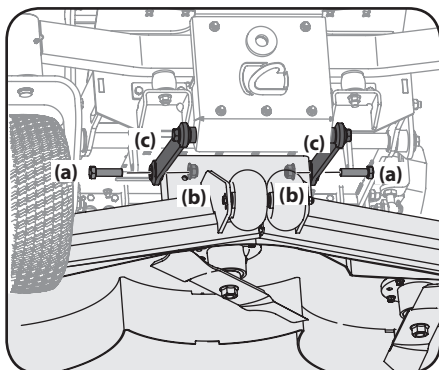

Figure 4-14
6. Remove the hex screws (a) flange lock nuts (b) securing the front deck control rods (c) to the deck. See Figure 4-14.